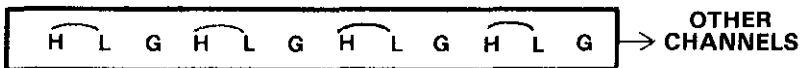

Figure 4. Shorting HI and LO of all Channels on the Card
- The 10 input connections on the Model 7059 plug-in card should be shorted together between HI and LO with a short piece of solid copper wire. That is, connect all the HI and LO terminals together as shown in Figure 4. (The OUTPUT terminals of the Model 7059 should be connected to short copper wires to facilitate connecting the alligator clips on the Model 1506 cable.) With the Model 1506 cable attached to the output, the plug-in card should then be inserted into the mainframe and power applied to the mainframe. Set the Model 705 to the reset mode and allow it to warm up along with the Model 181.